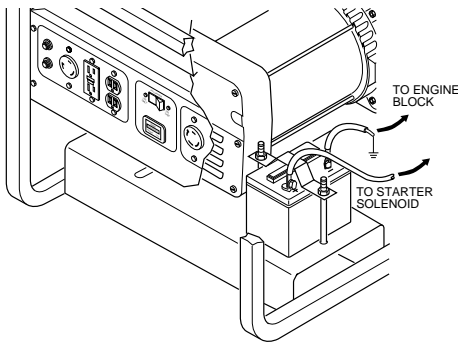

Figure 12 - Connecting Positive and Negative Cables to Battery (Model MGH7000D Shown)
2. Locate the red, positive (+) battery cable from starter solenoid. Connect it to the positive (+) battery terminal (see Figures 12 and 13, page 9).
3. Locate the black, negative (-) battery cable attached to engine block. Connect it to the negative (-) battery terminal (see Figures 12 and 13, page 9).
Grounding generator helps prevent electric shock from a ground fault condition. Locate ground lug on end of generator housing (see Figure 12). Attach a #10 stranded-copper ground wire to ground lug. Drive grounding point into ground. Grounding point can be a stake, grounding rod, or pipe. Grounding point should be copper or brass. Attach ground wire to grounding point. You must supply the ground wire and grounding point. These do not come with generator. Follow the *National Electrical Code* and all state and local codes. Consult your power company or a licensed electrician.